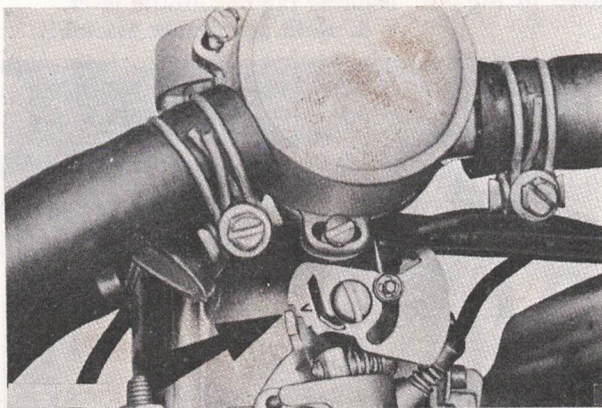

Fig. 18. Auto-choke mechanism set in fast idle position. Fast idle adjusting tag arrowed.
3. Run up engine to normal operating temperature. Stop engine and connect a tachometer to engine. Open throttle and locate fast idle cam in the fast idle position ('V' mark on the cam to line up with throttle lever.) Release throttle to hold cam in this position, Fig. 18.